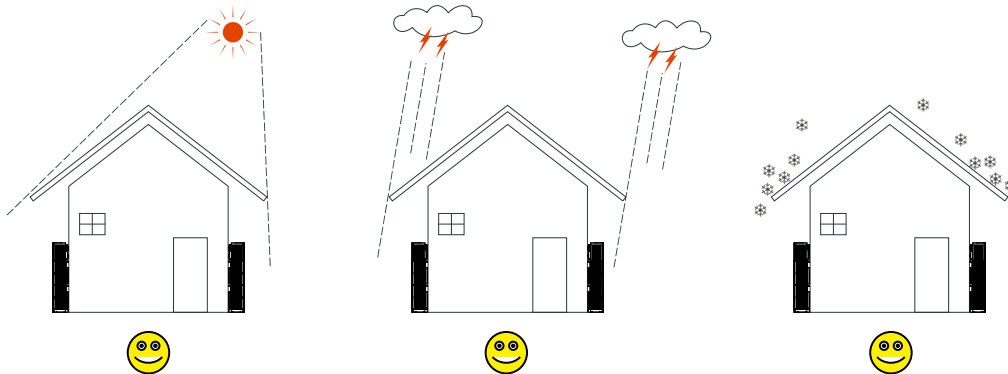

Figure3-2 Recommended installation environment
2. It is suggested to install the iStorageE1 product under shade as shown in Figure3-2 to max the iStorageE1 product lifespan and efficiency.